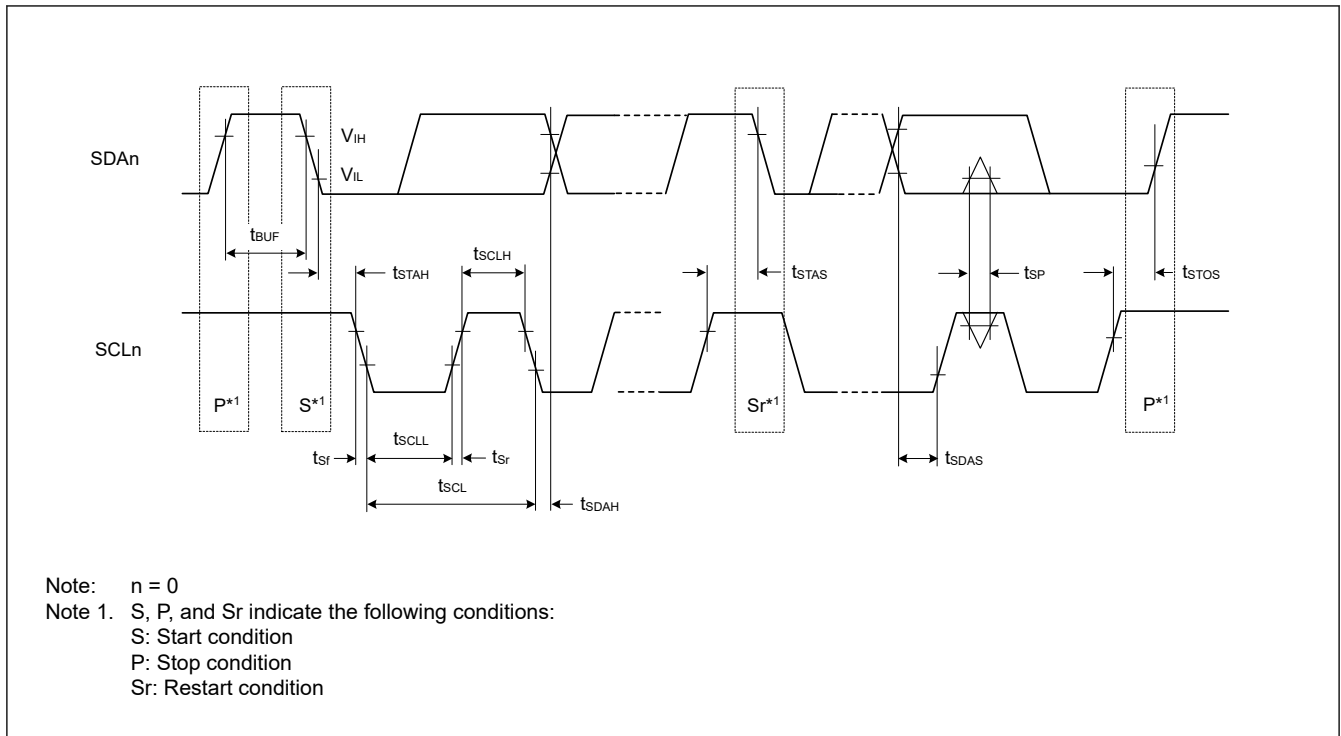

Figure 2.35 I²C bus interface input/output timing
| IIC (standard mode, SMBus) | SCL input cycle time | t_{SCL} | $6 (12) \times t_{IICcyc} + 1300$ | — | ns | Figure 2.35 |
| IIC (Fast mode) | SCL input cycle time | t_{SCL} | $6 (12) \times t_{IICcyc} + 600$ | — | ns | Figure 2.35 |